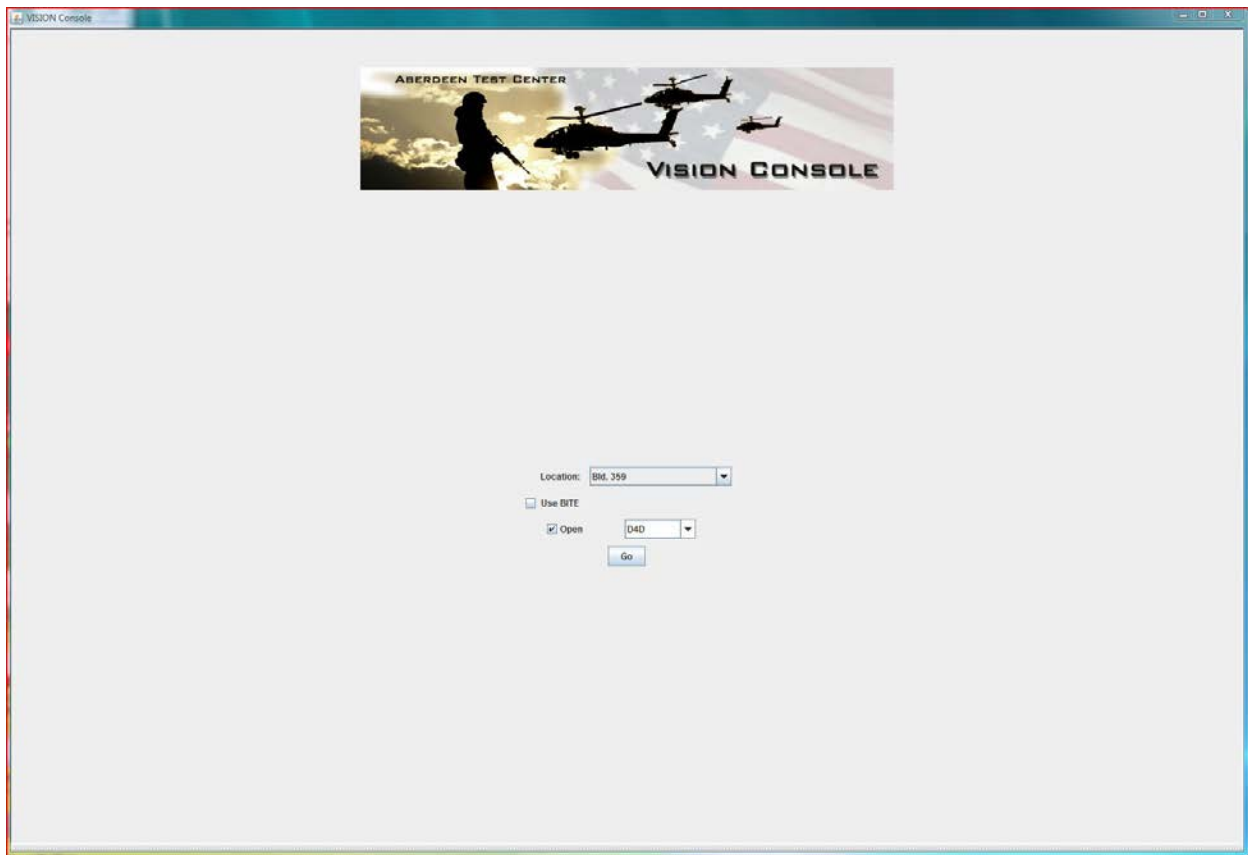

Figure A-8. Opening the BTSX console for D4D.
- a. When opening the BTSX console for the D4D, the operator should select the D4D option and deselect the USE BITE box (unless BITE is available). See Figure A-8.